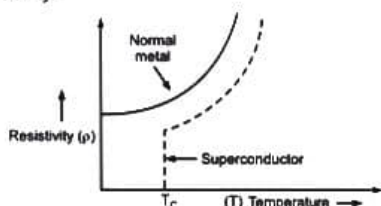

Fig. 5.6 : Variation of resistance with temperature
- In metals, both the thermal vibrations of atoms and the presence of impurities or imperfections scatter the moving conduction electrons. This gives rise to electrical resistivity. The variation of resistivity for a pure metal and superconductor is shown in Fig. 5.6.